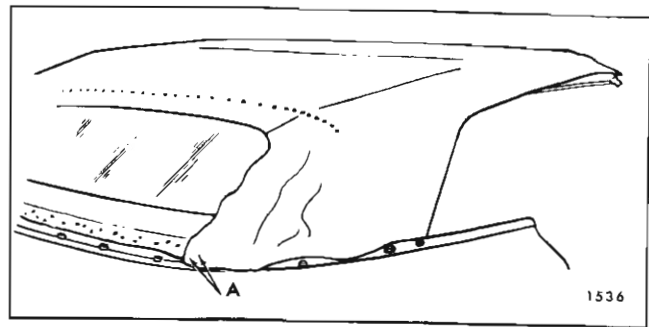

Fig. 1-I-36—Tacking Top Material
IMPORTANT: Tacks must be installed along a straight line in center of rear bow. (See Fig. 1I37). Tacks outboard of deck seams should be restricted to distance not to exceed six inches,
which is length wire-on binding extends past seam (Fig. 1I37).
28. At front roof rail, pull top trim material forward to desired tension. While maintaining tension on top trim, place a pencil mark on outer surface of trim material along forward edge of front roof rail (Fig. 1I38).